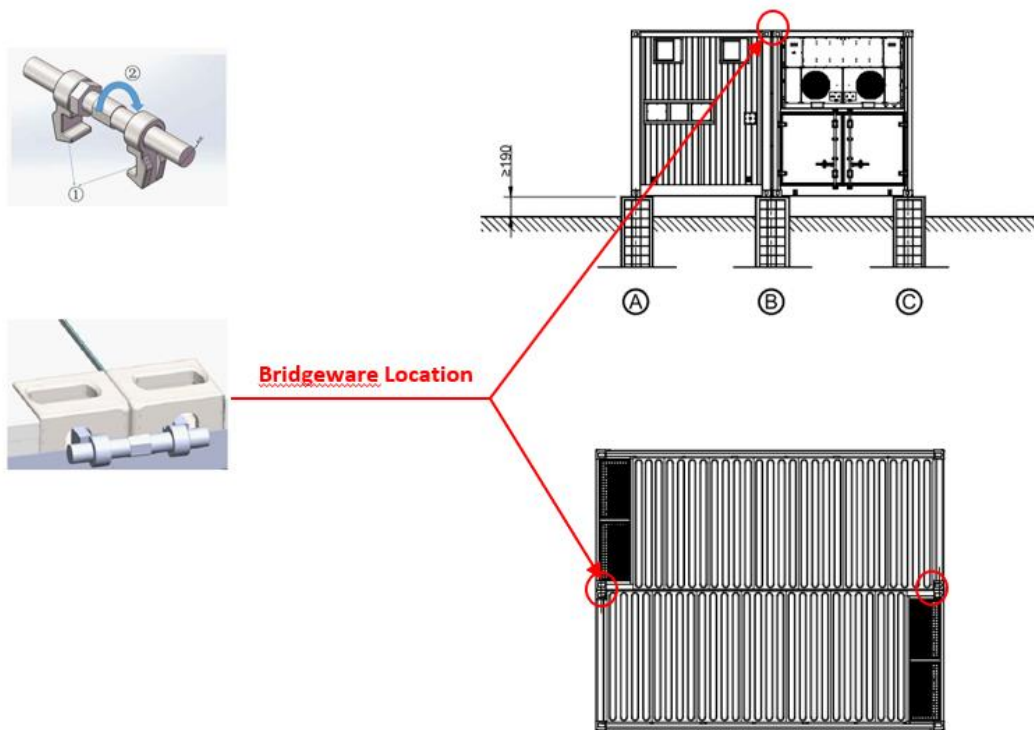

Figure 16. Remove two bridge lock clamps
- ✓ **Step 2:** If back-to-back installation was used, remove two bridge lock clamps at the locations shown in Figure 16.